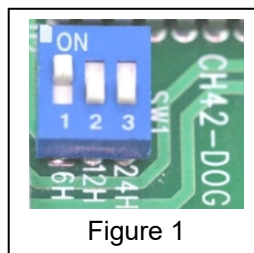

Figure 1
- Equalize charge mode will continue to 6/12/24 hours and back to float charge mode automatically to prevent battery overcharged. Factory default time is 6 hours. (Figure 1)